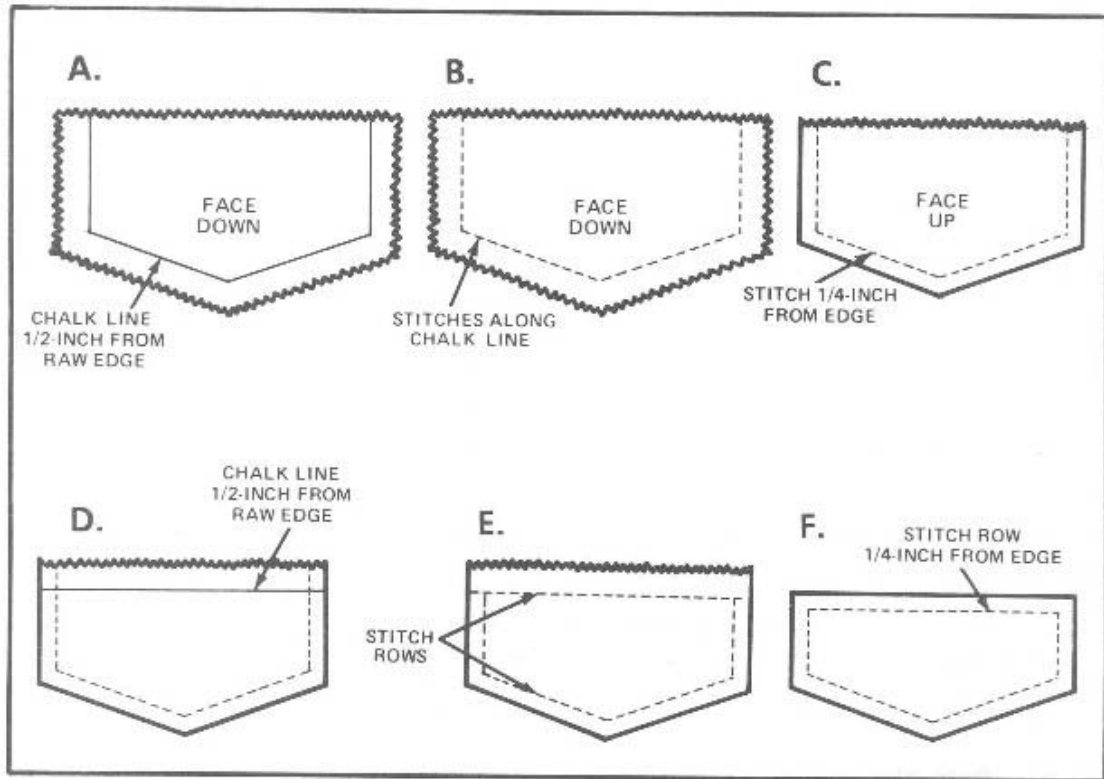

Figure 3-67
- g. Position the pocket flaps 1/2-inch above the pocket. Make a 1-inch tack, and sew one row of stitches 1/4-inch from the folded edge. Finish the stitch row with a 1-inch tack. (See Figure 3-67)